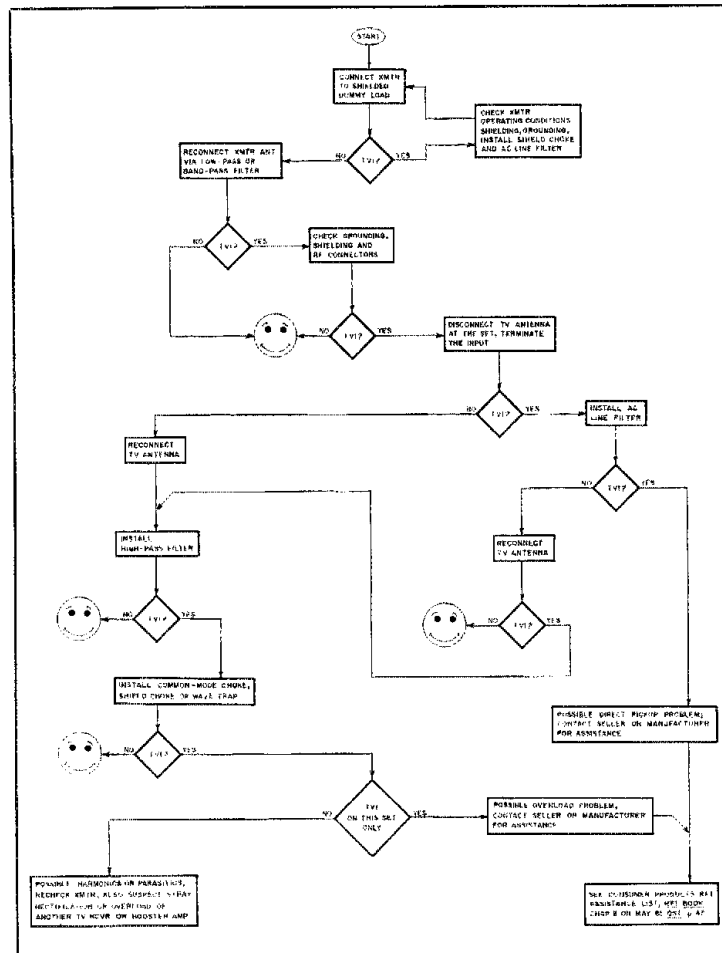

Fig. 1 — TVI trouble-shooting flow chart.
Fig. 1 is a trouble-shooting flow chart designed to help you track down TVI in a logical, step-by-step process. To begin, transmit into a dummy load and check your TV set for interference. If you see any, check transmitter tuning, neutralization and operating voltages — especially bias. If these are okay, the fault may be caused by rf traveling into the TV set on the ac line, improper shielding and bonding of the transmitter cabinet or improper grounding.
TVI can be difficult to tame even though FCC studies indicate that most cases can be cured by installing a low-pass filter on the transmitter and a high-pass filter on the TV set. A logical step-by-step approach should lead you to the interference source; the troubleshooting flow chart in Fig. 1 should help. Further information can be found in *Radio Frequency Interference* and in the in-
Fig. 1 shows circuit changes made in the final amplifier compartment. Fig. 2 details the coil pack board changes. PLL system changes are not shown in schematic form because they involve only direct component substitution or addition on the PD and VCO PLL system boards.
Although I wound my own coils on some forms salvaged from surplus pc boards, a more direct approach would be to order coils handled as replacement parts for the TS-820(S). Table 1 lists the part numbers of those coils that will tune satisfactorily in the circuits shown in Figs. 1 and 2. The 8.830-MHz trap coil has no TS-820(S) replacement part equivalent and must be homemade.
Fig. 1 — Schematic diagram of the TS-820(S) final amplifier after modification. The changes include the addition of a relay (K1) and the use of an existing but previously unused BAND switch wafer. The shaded portion of the diagram is reproduced from the service manual.
To permit tuning the final-amplifier circuit to resonance at 10 MHz with the BAND switch in the WWV position, several stumbling blocks must be overcome. Refer to Fig. 1. First, the entire plate coil (used on 1.8 MHz) is in the plate circuit in this position. Second, two plate tuning